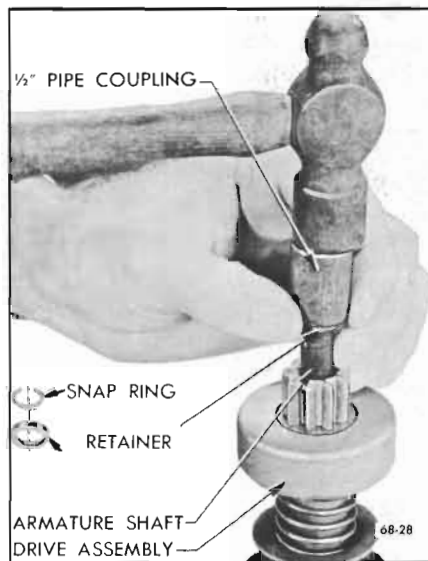

Figure 68-28—Removing Pinion Stop Retainer and Snap Ring
7. To remove drive assembly from armature, place a metal cylinder of proper size (1/2" pipe coupling will do) over end of shaft to bear against the pinion stop retainer. Tap retainer toward armature to uncover snap ring. See Figure 68-28. Remove snap